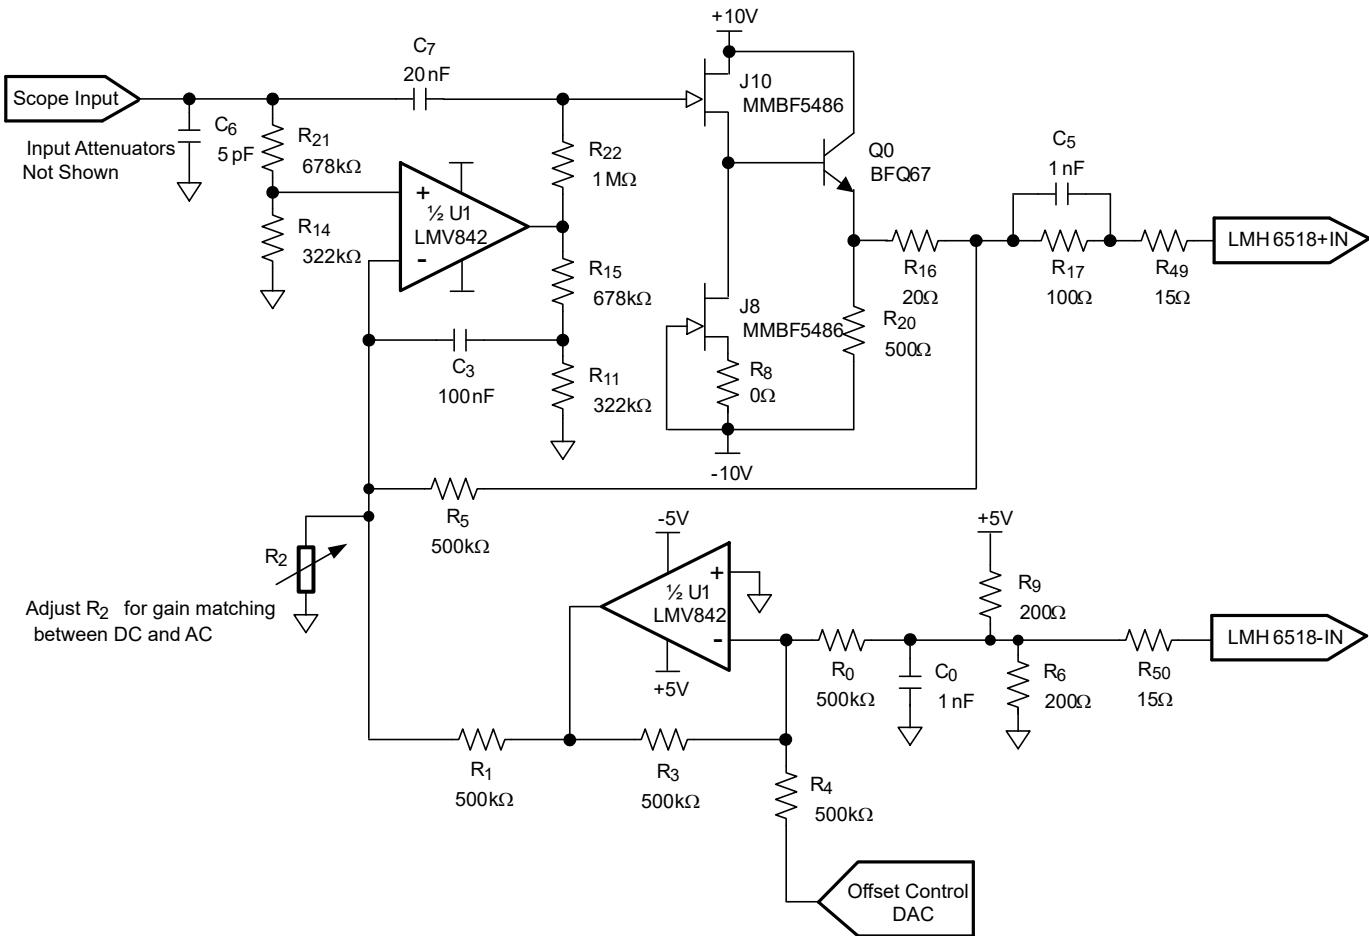
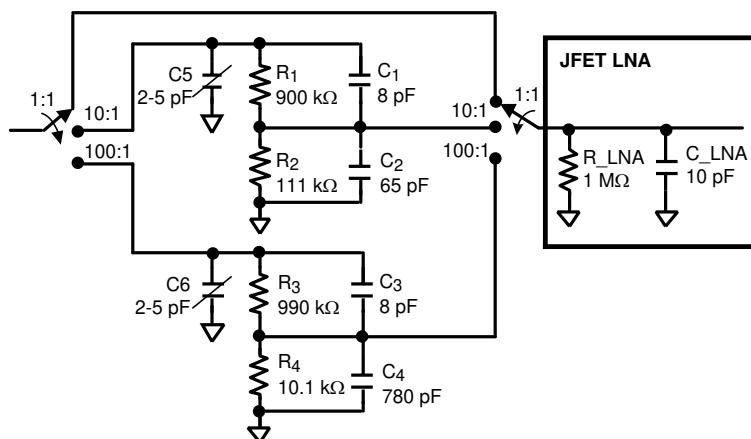

Figure 7-11. JFET LNA Implementation
Figure 7-12. Front-End Attenuator for JFET LNA Implementation
- Low noise ($< 0.98 \text{ nV}/\sqrt{\text{Hz}}$) to reduce the impact on the LMH6518 noise figure. Be aware that Figure 7-1 does not show the necessary capacitors across the resistors in the front-end attenuators (see Figure 7-12). These capacitors provide frequency response compensation and limit the noise contribution from the resistors so that the resistors do not impact the signal path noise. For more information about front-end attenuator design, including frequency compensation, see Section 8.2.1 for additional resources.
Figure 7-11 shows the schematic drawing for a possible implementation of the LNA buffer.
With the values in Figure 7-11 $\rightarrow R_2$ approximately 452 k Ω .
Figure 7-12 shows a front-end attenuator designed to work with Figure 7-11.